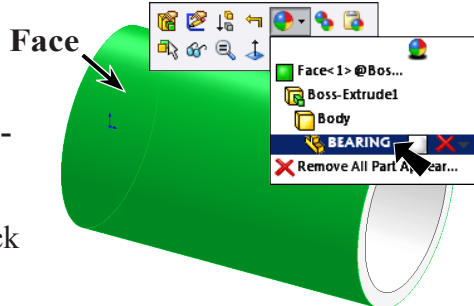

Fig. 10
Step 1. Click the Bearing, click Appearance Callout  on the Context toolbar and click CHASSIS , Fig. 10.